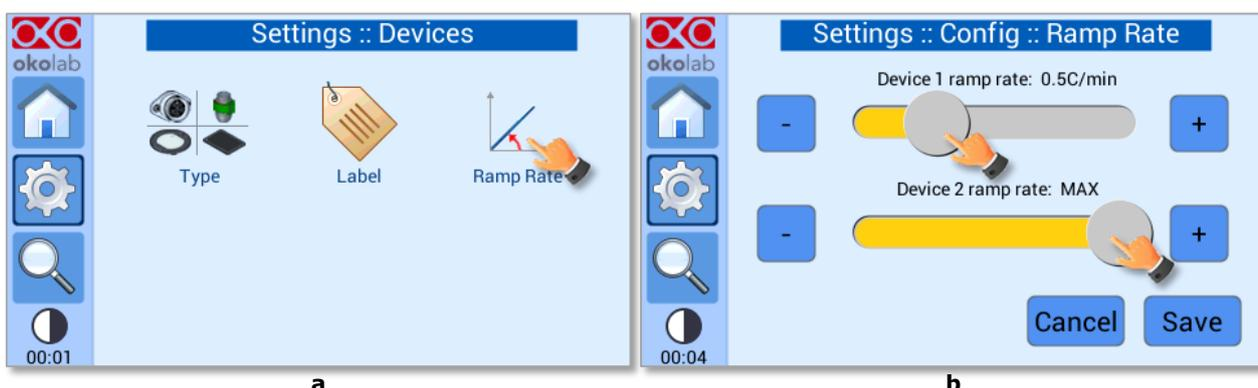

Figure 29. Ramp Rate. (a) How to enter the ramp rate menu; (b) Definition of the ramp rate
- 1 Press on the *Ramp Rate* icon , see Figure 29(a)
- 2 Use the slide bar or the + and - icons to select the maximum heating rate (in °C/min) for each device and save, see Figure 29 (b)